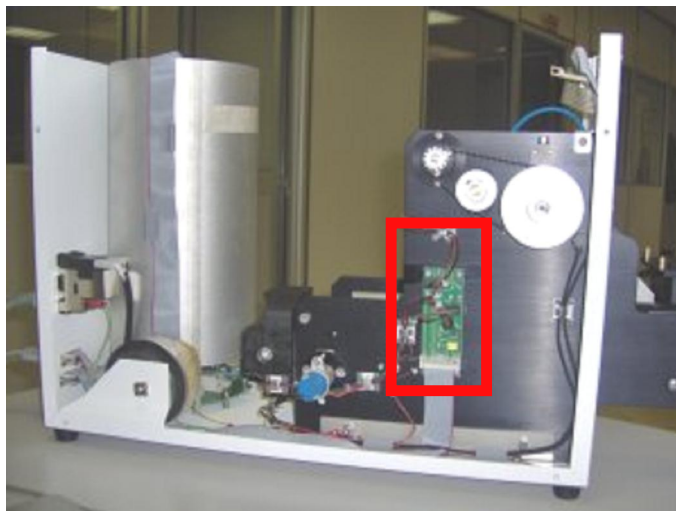

FIG 6.3
- Find board in the left side of the system (shown in Fig 6.3)